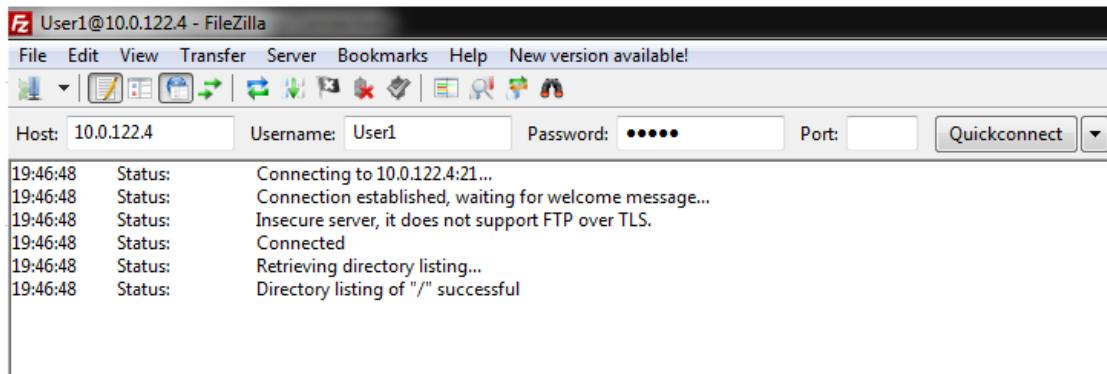

Figure 5-5: FileZilla Client Connection Interface
2. The Host should be the IP address of the LRV's MDS computer (10.0.XX.4). For example, Figure 5-5 shows the individual connecting the MDS of LRV 1122. Note that device addressing is included in Appendix A of Section 1700, Data Communications (TCN) of the Running Maintenance and Servicing Manual.